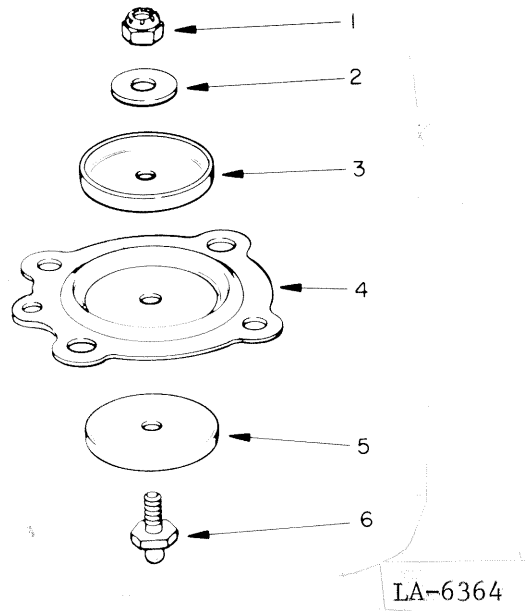

Figure 2.
- (4) Assemble together parts (1 through 6, figure 2) of this directive and tighten nut (1) to a torque value of 5-7 inch-pounds. Retorque to original value after 20 minutes. Retorque only once.
- (5) Reassemble the Distributor Valve Assembly as outlined in the affected publication except discard the spring (23) and valve assembly (24) and install the parts assembled in preceding step (4) in place of diaphragm assembly (20).
- (6) Functionally test the Distributor Valve Assembly as outlined in the affected publication.